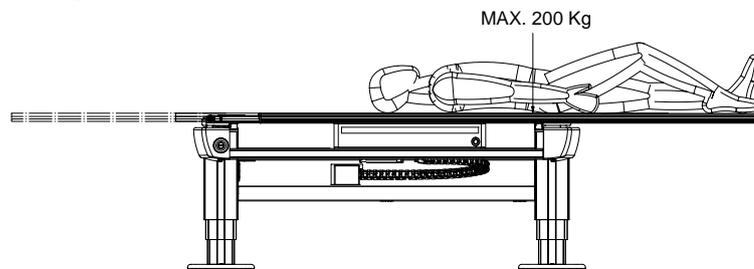

Fig. 2-11 Table top outside table frame
- 200 kg, see Fig. 2-11 *Table top outside table frame*